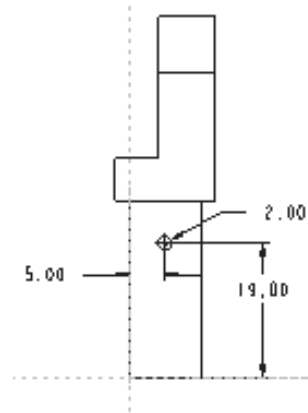

Figure 4-58 Sketch and dimensions for hole
1. Turn the model display to **No Hidden**. Draw the sketch of the cut feature and add dimensions to it as shown in Figure 4-58. The hole dimension shown in Figure 4-58 appears as a radial dimension but it is a diameter dimension.